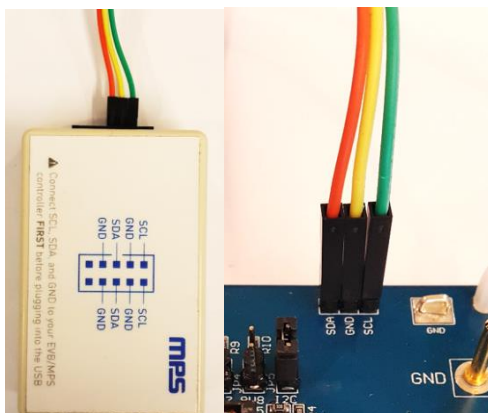

Figure 6: Wire Connection Between EVB and MPS I²C Communication Interface
2. Connect SCL, SDA, and GND (see Figure 6). Refer to the MP2672A datasheet for further clarification.